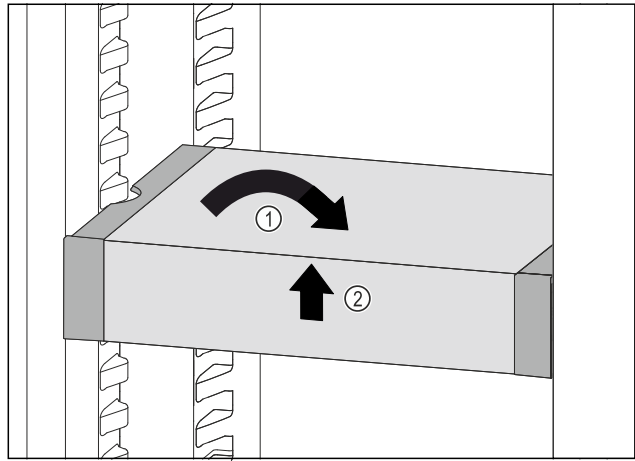

Fig. 195
- ▶ Set VarioSafe straight. *Fig. 195 (1)*
- ▶ Lift VarioSafe at the front. *Fig. 195 (2)*